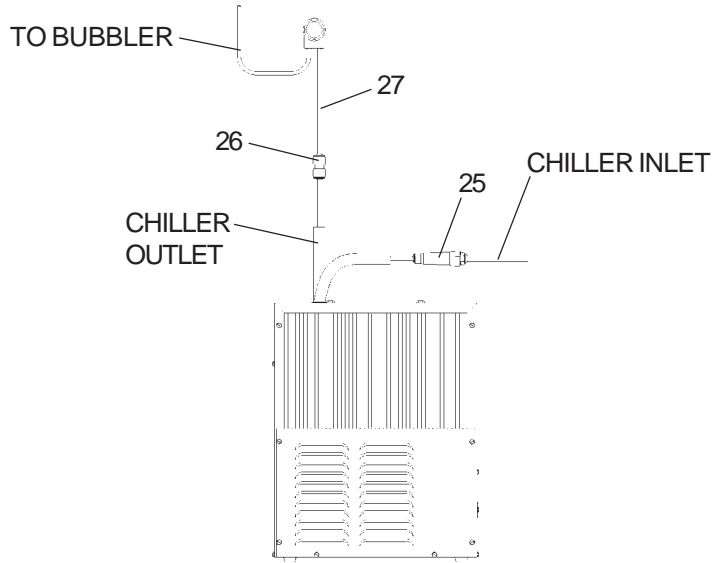

FIG. 10
2. Make water supply connections. The inlet port is marked on the chiller (1/4" O.D. copper tube). Bend the copper tube (provided) at an appropriate length from chiller to opening in frame. Install the in-line strainer (provided with chiller) by pushing it in until it reaches a positive stop, approximately 3/4" (19mm) on the marked chiller inlet port. Attach an unplated and deburred copper water inlet line and a service stop (not provided) to the in-line strainer. Turn on the water supply and flush the line thoroughly. **DO NOT SOLDER TUBES WHILE INSERTED INTO THE STRAINER AS DAMAGE TO THE O-RINGS MAY RESULT.** (See Fig. 10)
7. Make connection between remote chiller outlet tube and fountain. Outlet port is marked on the chiller (1/4" O.D. copper tube). Install a 1/4" x 1/4" union (provided) on the marked chiller outlet port. Insert the 1/4" poly tubing coming from the fountain into the union. Turn on water supply and check for leaks. **DO NOT SOLDER TUBES WHILE INSERTED INTO THE UNION AS DAMAGE TO THE O-RINGS MAY RESULT.** (See Figs. 10 & 11)